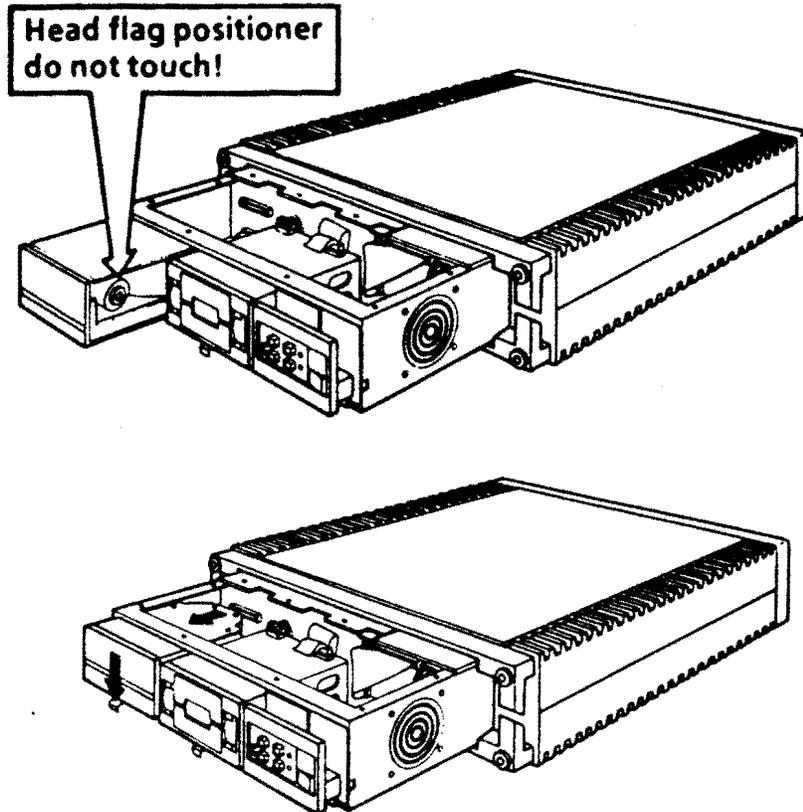

Figure 6-11: RD52 Cable Access
When handling the drive, do not hold the front, right-hand side of the drive; doing so will cause the head positioner flag to rotate (Figure 6-11).
1. Push down the release tab, and slide the drive forward to access the cables at the rear of the drive (Figure 6-11).
3. Remove the drive from the chassis by sliding it forward. Observe the previous head positioner flag caution (Figure 6-11).